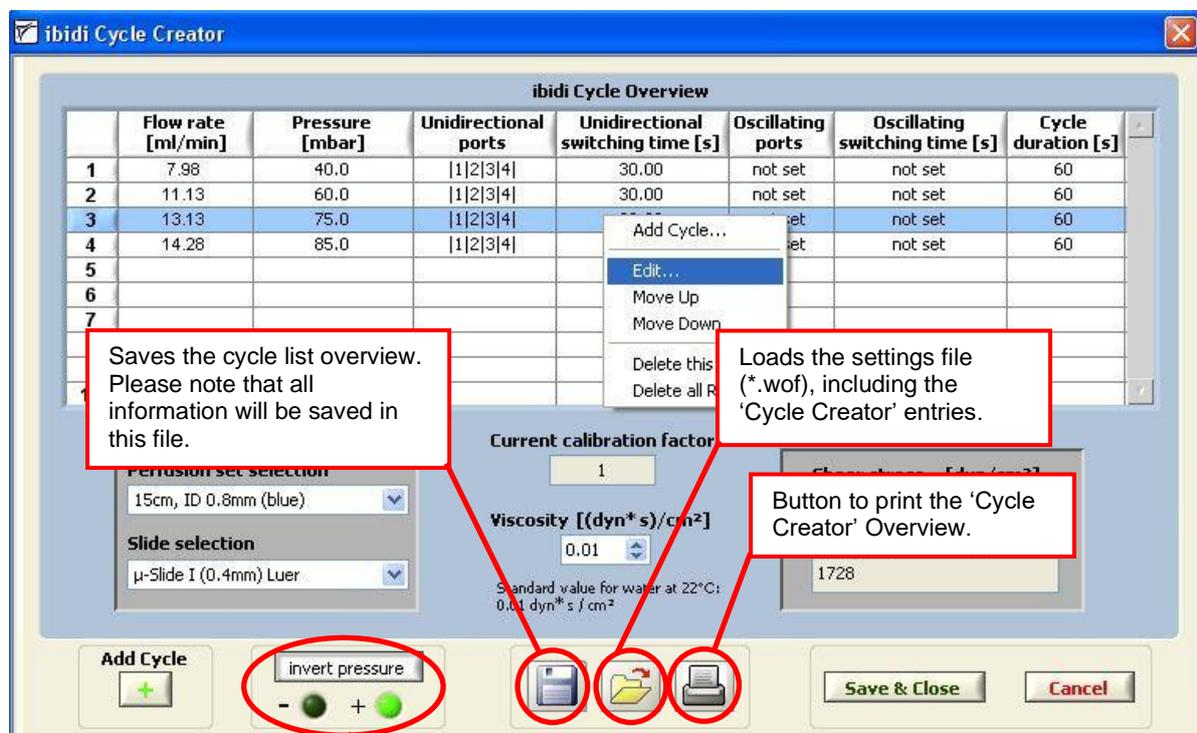

Figure 19: Functions within Cycle Creator
The 'Cycle Creator' includes most of the functions available in the PumpControl main menu. Figure 19 shows the overview with a brief description.
- You can exit your ibidi 'Experiment Builder' by pressing the 'Close' button. Once you've successfully exited this operation, you'll see the message shown below in Figure 19.